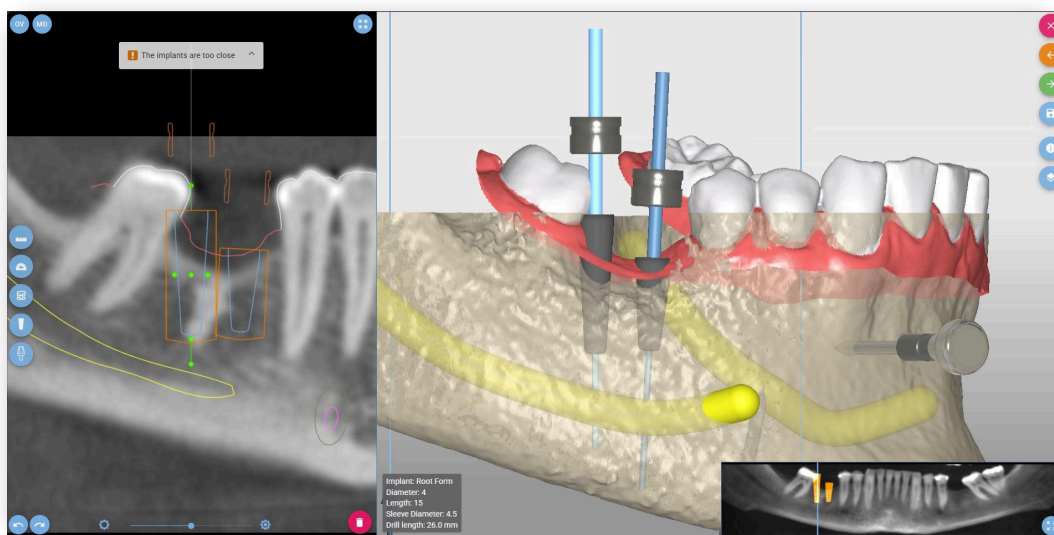

Figure 44: Two implants are in a conflicting position.
- Two implants are in a conflicting position (Figure 44).